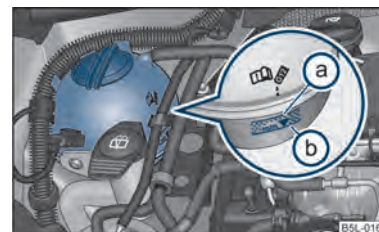

Fig. 155 Engine compartment: Coolant expansion bottle
- Check the level of coolant in the coolant expansion bottle ⇒ fig. 155. When the engine is cold, the coolant level must lie between the  and  markings. The level may also rise slightly above the  (MAX) marking when the engine is warm.
- Place a cloth over the cap of the coolant expansion reservoir ⇒ fig. 155 and unscrew the cap **carefully** by turning it to the left ⇒ .
Do not fill the coolant above the mark  (max.) ⇒ fig. 155! Excess coolant heats up and then is forced out of the cooling system through the pressure relief valve in the cap.